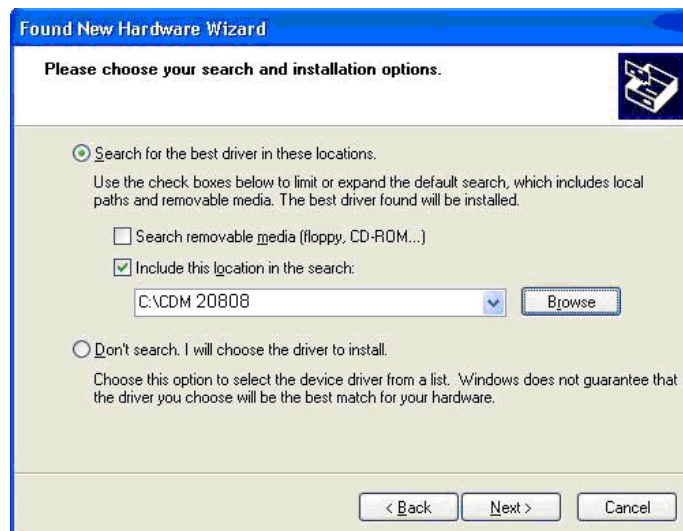

Figure 8
- Select "Search for the best driver in these locations" and enter the file path in the combo-box ("C:\CDM 20808" in Figure 8 below) or browse to it by clicking the browse button. Once the file path has been entered in the box, click next to proceed.